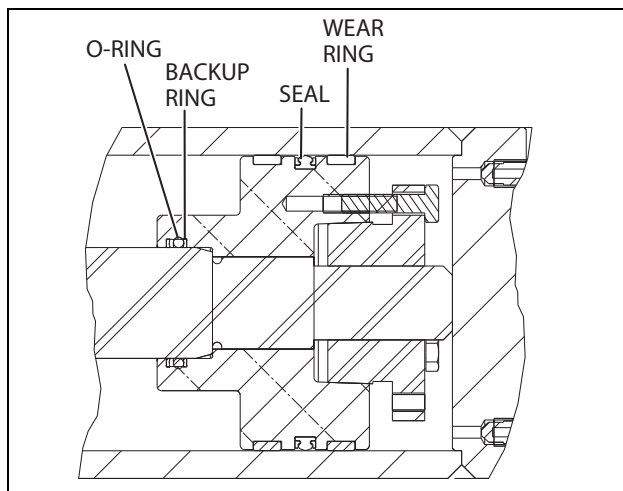

Figure 5-13. Piston Seal Kit Installation
13. Place seals in the applicable outside diameter grooves of the cylinder piston. (See Figure 5-13., Piston Seal Kit Installation).